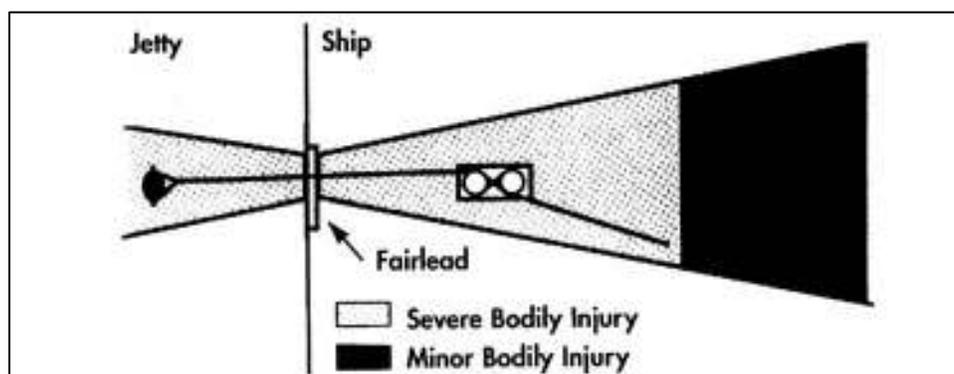

Figure 4.2-1 - Snap Back Zone
d. **Snap Back Zones.** Whenever a line comes under excess strain, the risk that it may part rises exponentially. When a line under strain parts, it snaps back to its normal unstrained condition. The speed at which it snaps depends on the construction of the rope. Ropes made of synthetic fibres, for example double-braided nylon, snap back at very dangerous speeds, presenting the risk of serious injury to anyone caught in its path. For this reason it is imperative that line handlers are ordered clear of snap back zones whenever excess strain comes on the line. Symptoms of excess strain are heat waves emanating from the line as the fibres begin to melt and visible smoke immediately prior to the line parting. The snap back zone is defined as an area 20 degrees from either side of potential snap points (Figure 4.2.1).